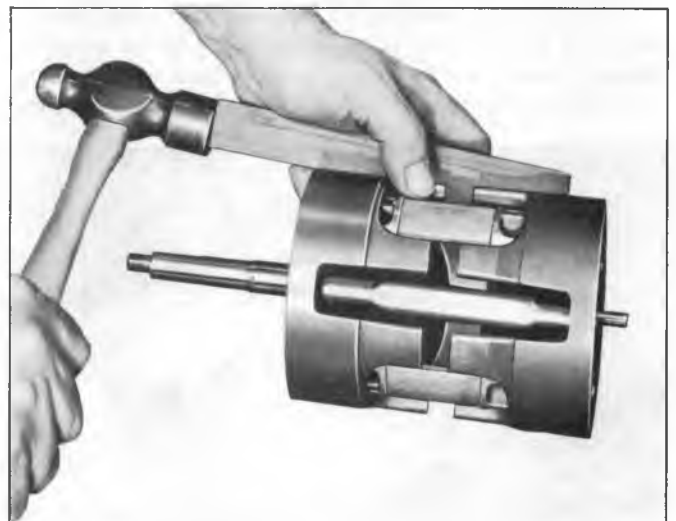

Fig. 19—Separating Cylinder Halves
3. Drive the cylinder halves apart and free from the dowel pins and discharge crossover tube using a fiber block and mallet (fig. 19). Discard the discharge crossover tube.